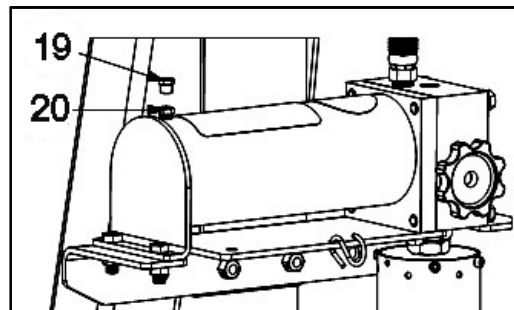

Fig. 8: Install breather vent plug
5. Remove the shipping plug [#19] from the pump [#12] as shown in Fig. 8.